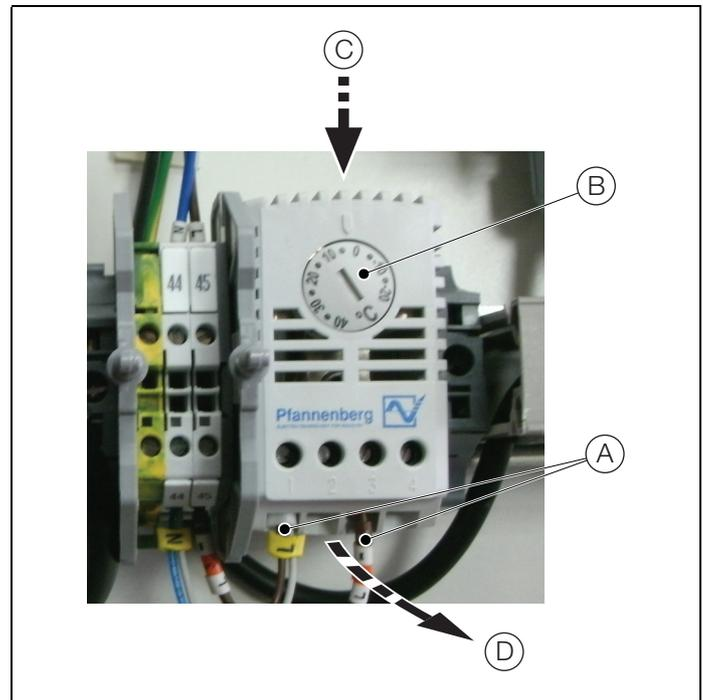

Fig. 5.3 Thermostat replacement
3. Referring to Fig. 5.3:
- a. Record the position of thermostat wiring (A) and disconnect it from the thermostat terminals.
- b. Press down firmly on the top of the thermostat (C) and simultaneously pull the bottom of the thermostat away from the DIN rail (D) to remove the thermostat from the DIN rail.
- d. Reconnect thermostat wiring (A) to the thermostat terminals recorded in step a.
- f. Rotate thermostat temperature selector (B) clockwise to maximum.